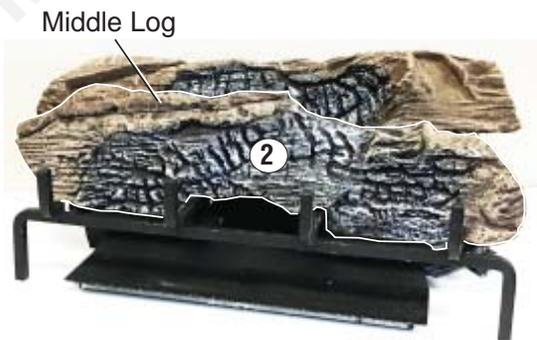

Figure 41 - Installing Log #2
2. Place the middle log (#2) in front of "U"-burner and against the edges of plate as shown in **Figure 41**.